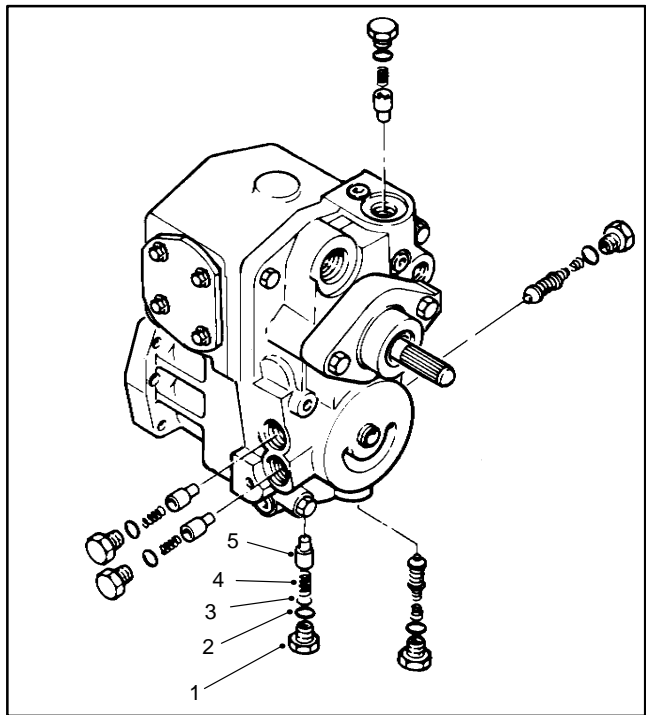

Figure 78
2. Remove the charge relief valve plug (Fig. 78).